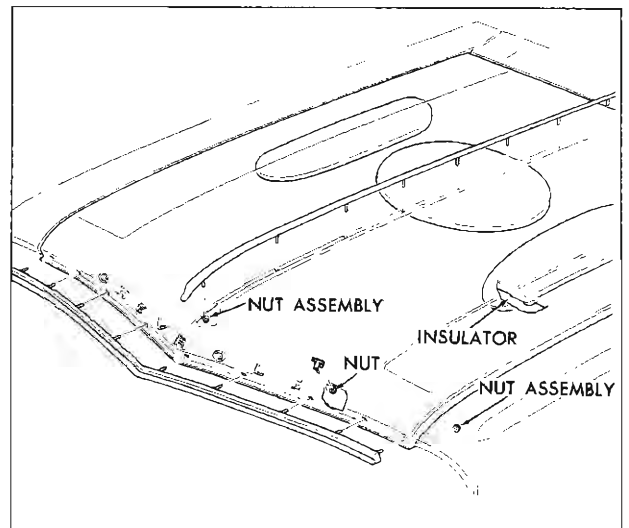

Fig. 22—Hood, Insulator and Molding
1. With hood opened only far enough to allow passage of mechanic's arm between hood and fender, insert ends of J-9559 (through bolt removed) between coils of spring until barrel of tool contacts outer diameter of spring (fig. 22).
Figure 22 shows the installation details of both the hood ornamentation and insulating pads. The hood emblem and molding retaining nuts may be reached from the underside of the hood panel.